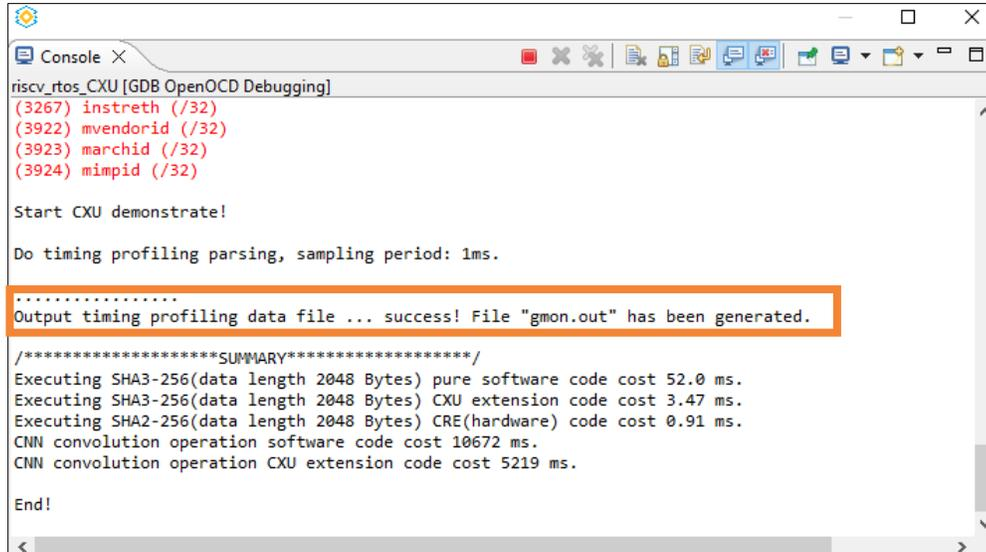

Figure 8.5. Console Logs 2
8. Compile and run the demo, as shown in the Compiling and Running Demo – CXU Demo section. Then, the console output logs (Figure 8.5).